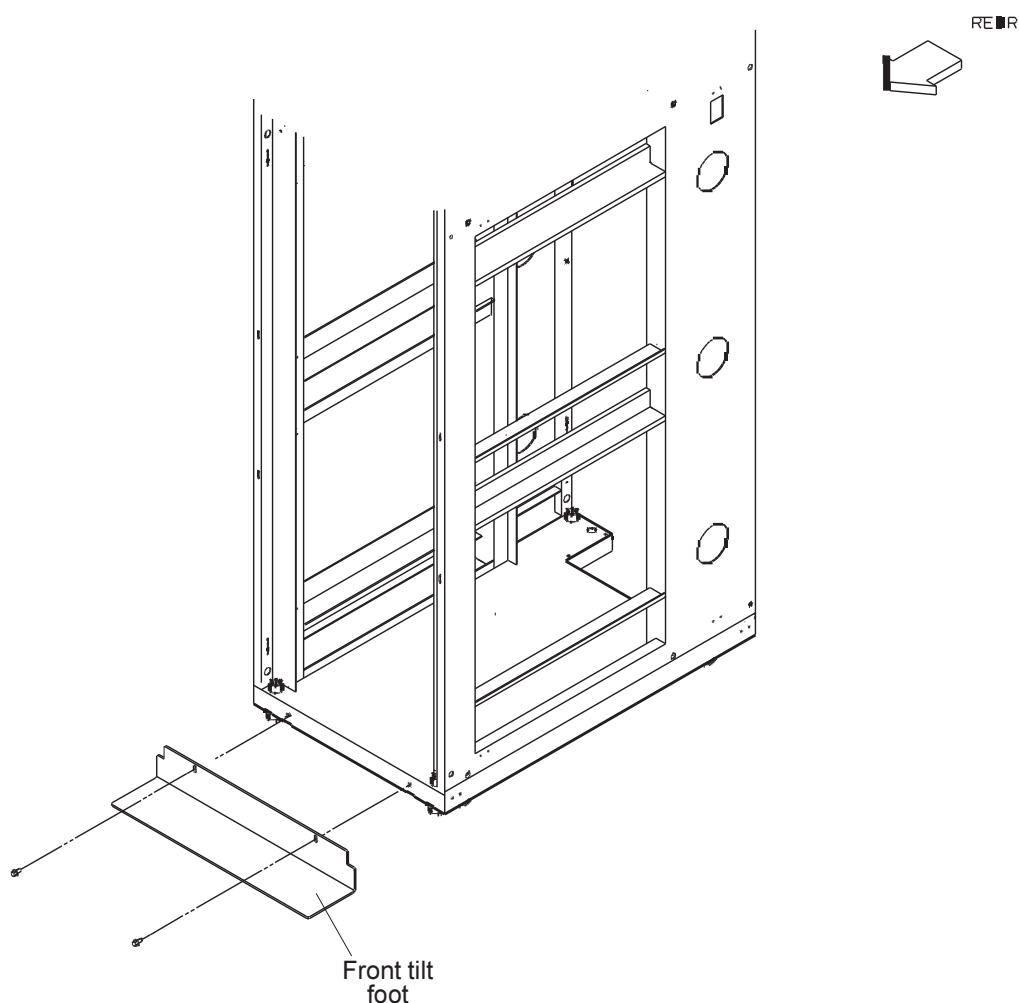

Figure 3. Stability kit
2. Install the frame-stabilizer foot on each cabinet. Figure 3 on page 7 shows how to install a frame-stabilizer foot.
A stability kit (Lenovo part number 41V0584), containing one stability kit, is included with the 1410 rack. Install the stability kit when the rack is at the final installation location. Figure 3 shows the attachment of the stability kit.